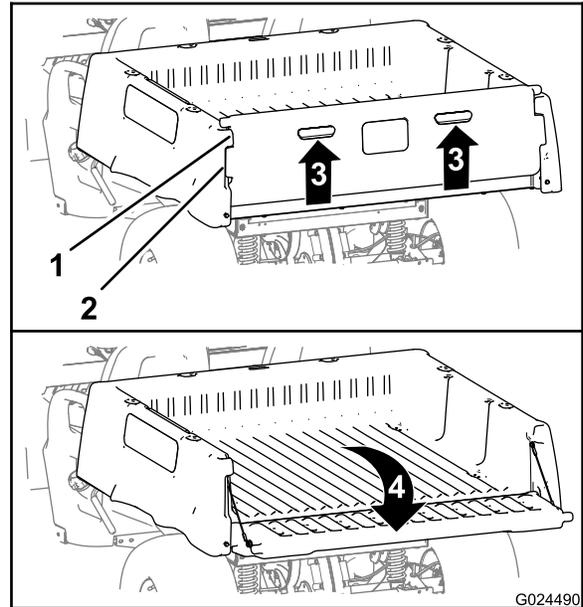

Figure 14
2. Lift up the finger pulls at the back panel of the tailgate (Figure 14).
3. Align the lock flanges of the tailgate with the openings between the tailgate flanges of the cargo bed (Figure 14).
4. Rotate the tailgate rearward and down (Figure 14).
6. Rotate the tailgate up and forward until the lock flanges of the tailgate are flush with the tailgate pocket in the cargo bed (Figure 14).
7. Lower the tailgate until it is seated in the back of the cargo bed (Figure 14).